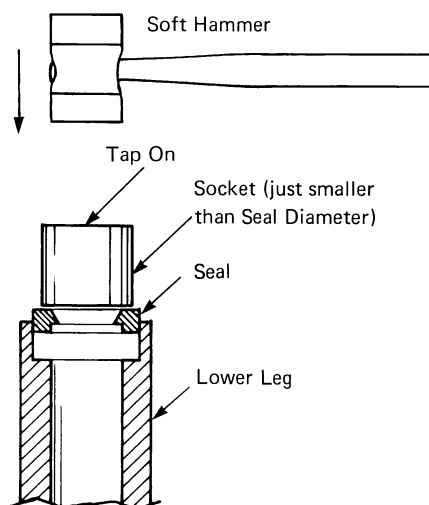

Fig. 5-34 Installing seal
5. Tap the new seal into place gently and evenly, using a large socket, pipe, or seal installer to keep the seal from pivoting as you drive it home. Be sure the sharp rubber lip is pointed downward so that fluid rising to meet it under pressure forces the lip up against the tube for a better seal (Fig. 5-34).